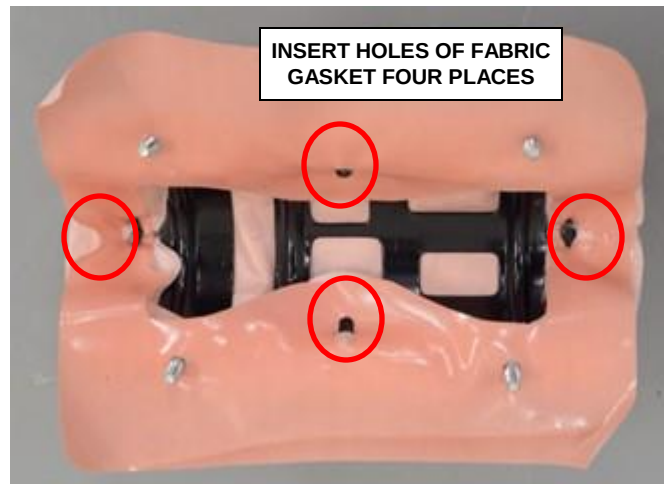

Figure 78 – Fabric Gasket
- g. With the help of a trim tool insert the holes of fabric gasket, four places (Figure 78).